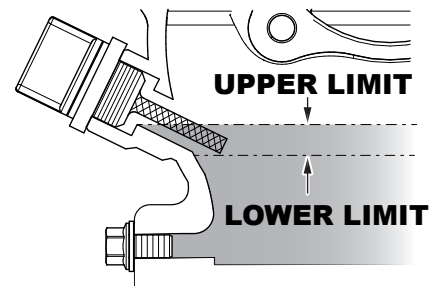

**Figure 11. Engine Oil Dipstick (Removal)**
2. Remove the filler dipstick from the engine oil filler hole (Figure 11) and wipe it clean.